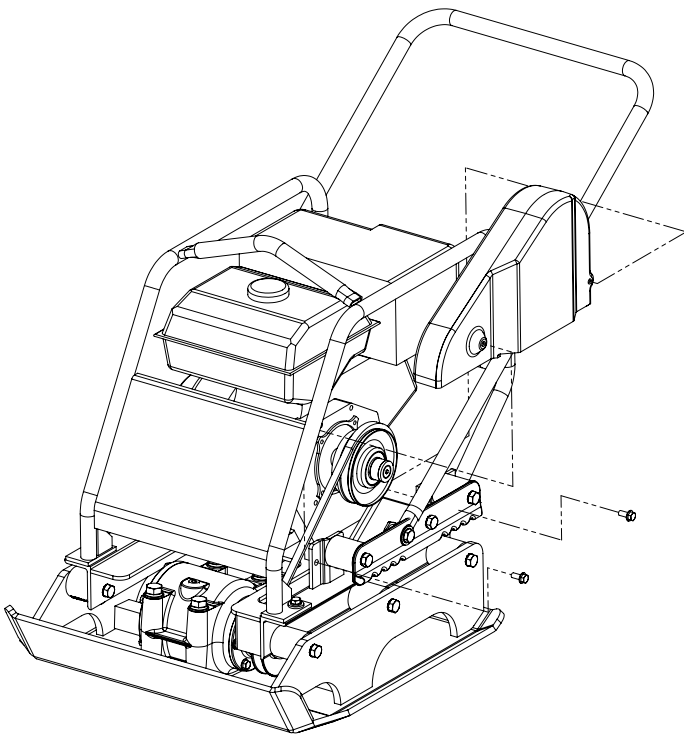

FIGURE 1
- Remove 2 hex head flange bolts (#10) securing belt guard to roll cage & engine deck and remove belt guard. (See figure 1)
3. To adjust belt tension loosen (do not remove) the (4) engine bolts.
4. Push engine towards the back of the plate. While holding pressure on the engine retighten the (4) engine bolts.
3. Remove belt guard as described in Belt Adjustment section of this manual. (See figure 1)
2. Remove belt guard as described in Belt Adjustment section of this manual. (See figure 1)
3. Loosen, do not remove, (4) engine mounting screws and slide engine towards front of machine and remove belt.